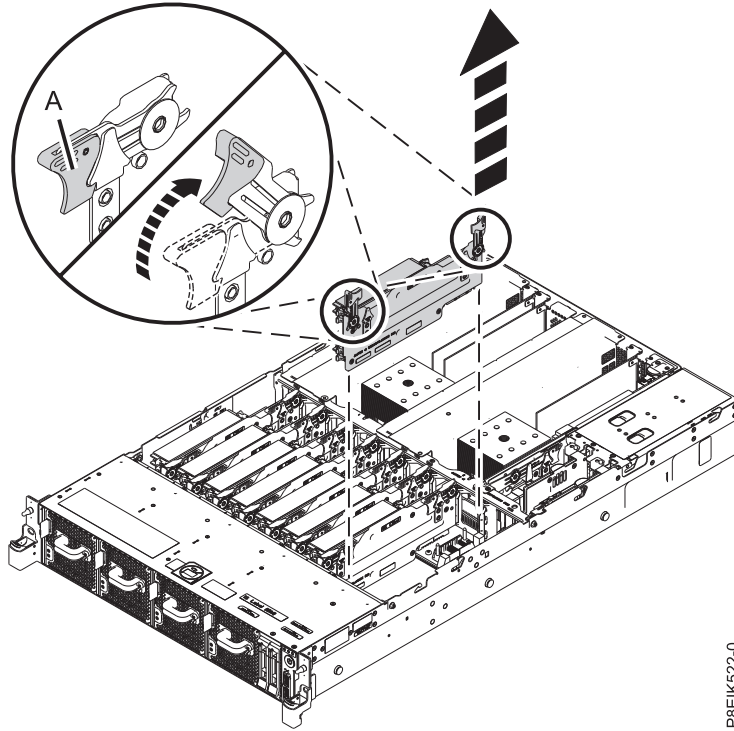

Figure 93. Removing a memory riser from the system
- a. Open the release latches on the memory riser. See (A) in Figure 93 on page 77.